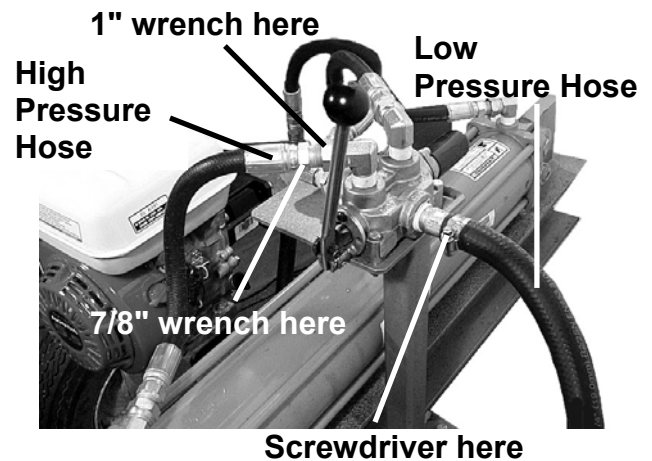

Figure 25
2. Use the 7/8" wrench to hold the high pressure hose end being replaced while loosening the fitting with the 1" wrench. (*Figure 25*)